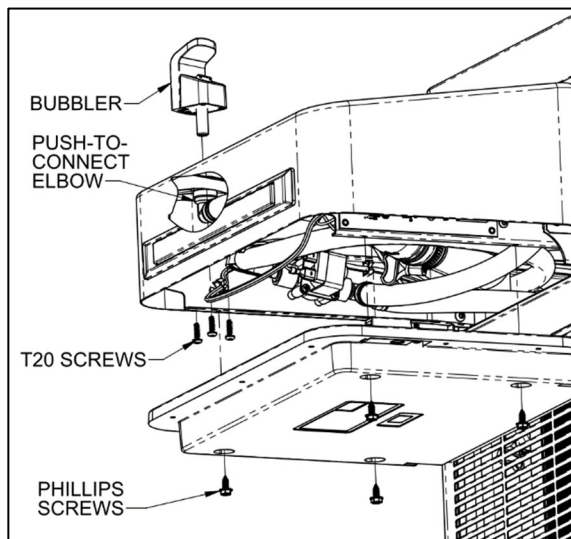

Figure 5: Bubbler Removal
1. Remove the (4) screws holding the skirt to the bottom of the frame. Then remove the skirt by sliding the skirt away from the cooler.
5. Install the new filter by pushing up and turning counterclockwise (as viewed from above). Note the label orientation in Figure 5.